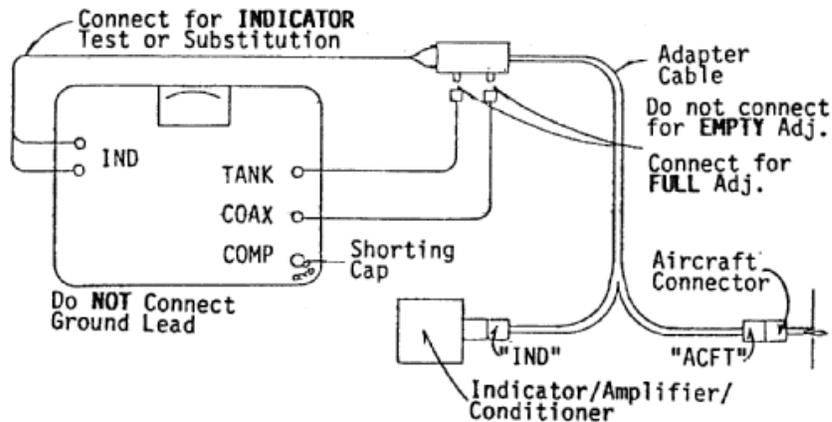

Figure 15 CAPACITANCE SIMULATION, CONFIGURATION #3
- With connectors for substituting the indicator as shown in Figure 15. The cable connections shown here are connected to the Test Set's IND \pm jacks.